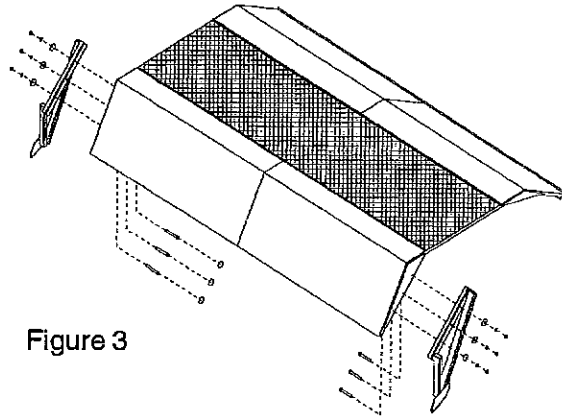

Figure 3
7. Assemble the roof opener arms to the roof with (6) 1/2" x 4" Gr5 bolts, (6) 1/2" diameter flatwashers, (6) 1/2" lockwashers, (6) 1/2" nuts and (3) 1-1/2" diameter plastic hole plugs as shown in Figure 3.